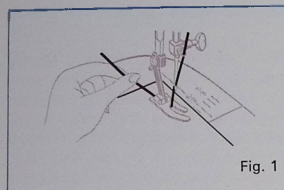

Fig. 1
3. Hold the end of the thread by left hand. Turn hand wheel forward until the needle just pierces the fabric. (Fig. 1)